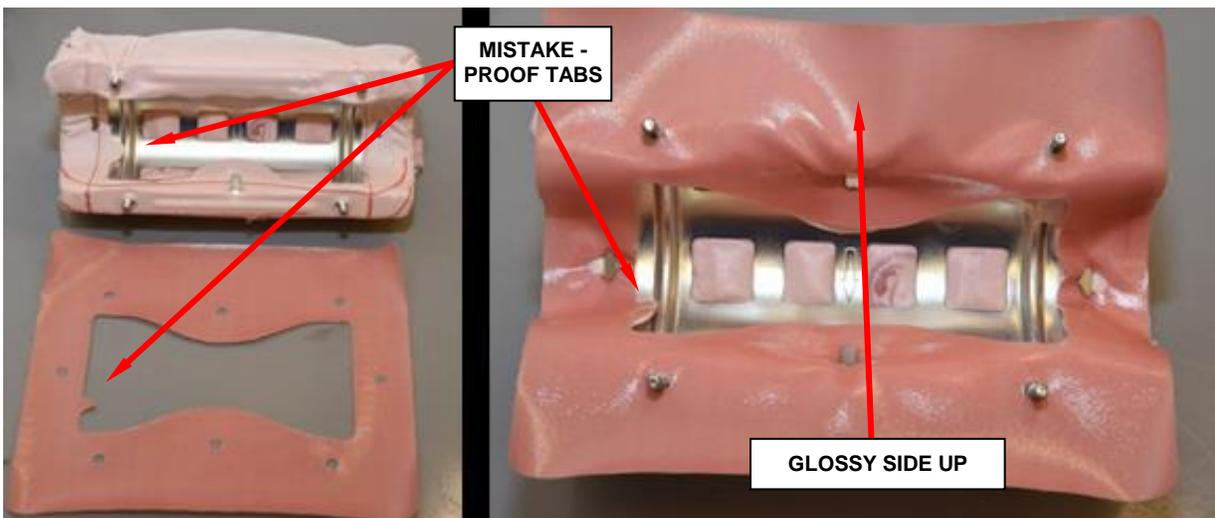

Figure 32 – Fabric Gasket to Cushion
- f. Place the fabric gasket, glossy side up, onto cushion. Mistake-proof tab should be aligned to the tab on the cushion (Figure 32).